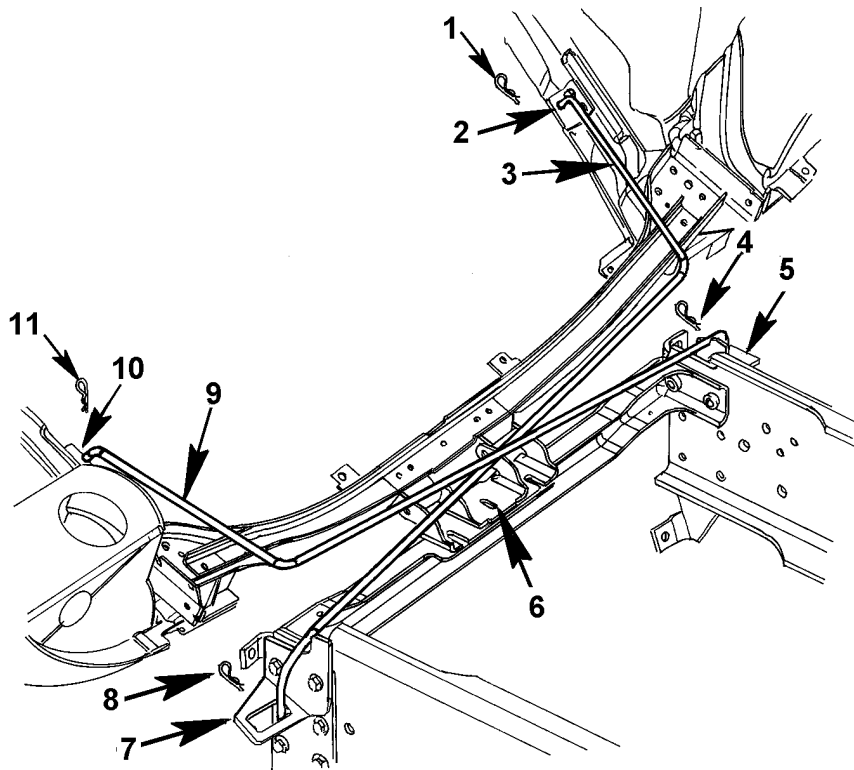

Figure 93 Torsion Bar Install
9. With smaller (Figure 93, Item 9) diameter torsion bar shorter end, install in driver side torsion bar retainer bracket (Figure 93, Item 7).
10. Install retainer clip on torsion bar end (Figure 93, Item 8).
11. Lay torsion bar in torsion bar guide bracket (Figure 31, Item 2) (**NOTE:** Figure 31 given for reference only, this view is passenger side, driver side is reversed) on driver side and place opposite end of torsion bar in hood torsion bar retainer bracket (Figure 93, Item 10). Hood may have to be slightly lifted to allow insertion of torsion bar in bracket.
12. Install retainer clip (Figure 93, Item 11).
14. Insert torsion rod end in passenger side frame torsion bar bracket (Figure 93, Item 5).
15. Install retainer clip (Figure 93, Item 4).
17. Insert torsion bar (Figure 93, Item 9) end in driver side hood torsion bar bracket (Figure 93, Item 10).
18. Install retainer clip (Figure 93, Item 11).